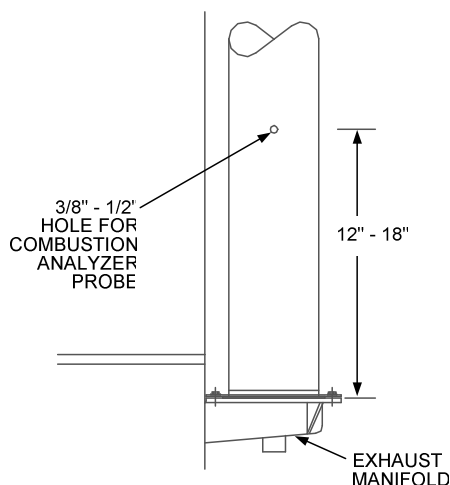

Figure 4.2
1. If the unit has been installed using the recommended AL29-4C vent, there will be a 3/8" hole, 18" to 24" above the exhaust manifold. The outer vent section, that covers vent connections must be loosened and moved to uncover the hole (see Figure 4.2).